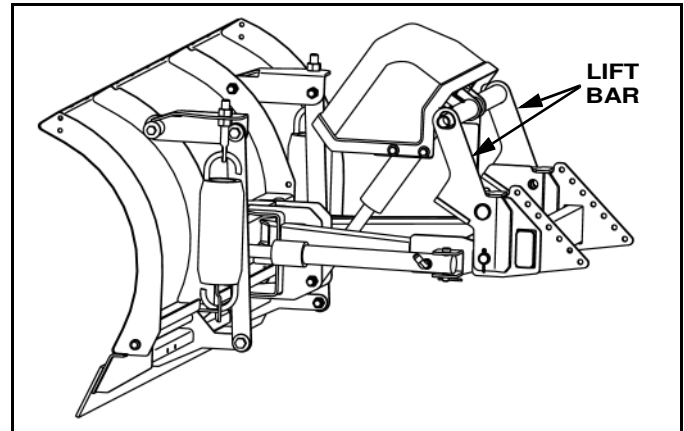

Figure 1-16
5. Rotate lift bar forward by pressing up function on controller. (See Figure 1-16)